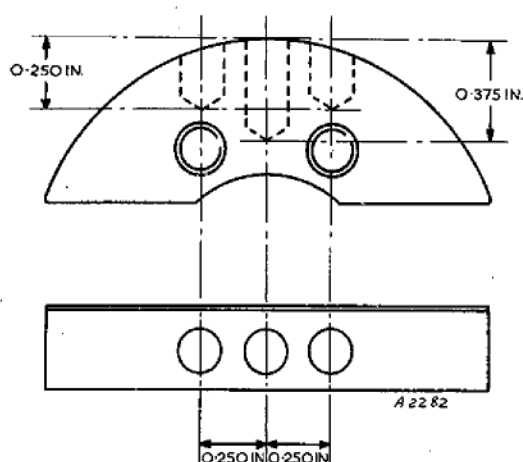

Fig. 5. Weight drilling positions and depths
51. If a new governor weight or governor lever assembly has been fitted, it may be found that the differential pressures obtained are above the limits quoted in the 'Test Schedule', Chap. 9D. This may be rectified by drilling a maximum of three holes in the outer periphery of the governor weight at the positions shown in fig. 5.